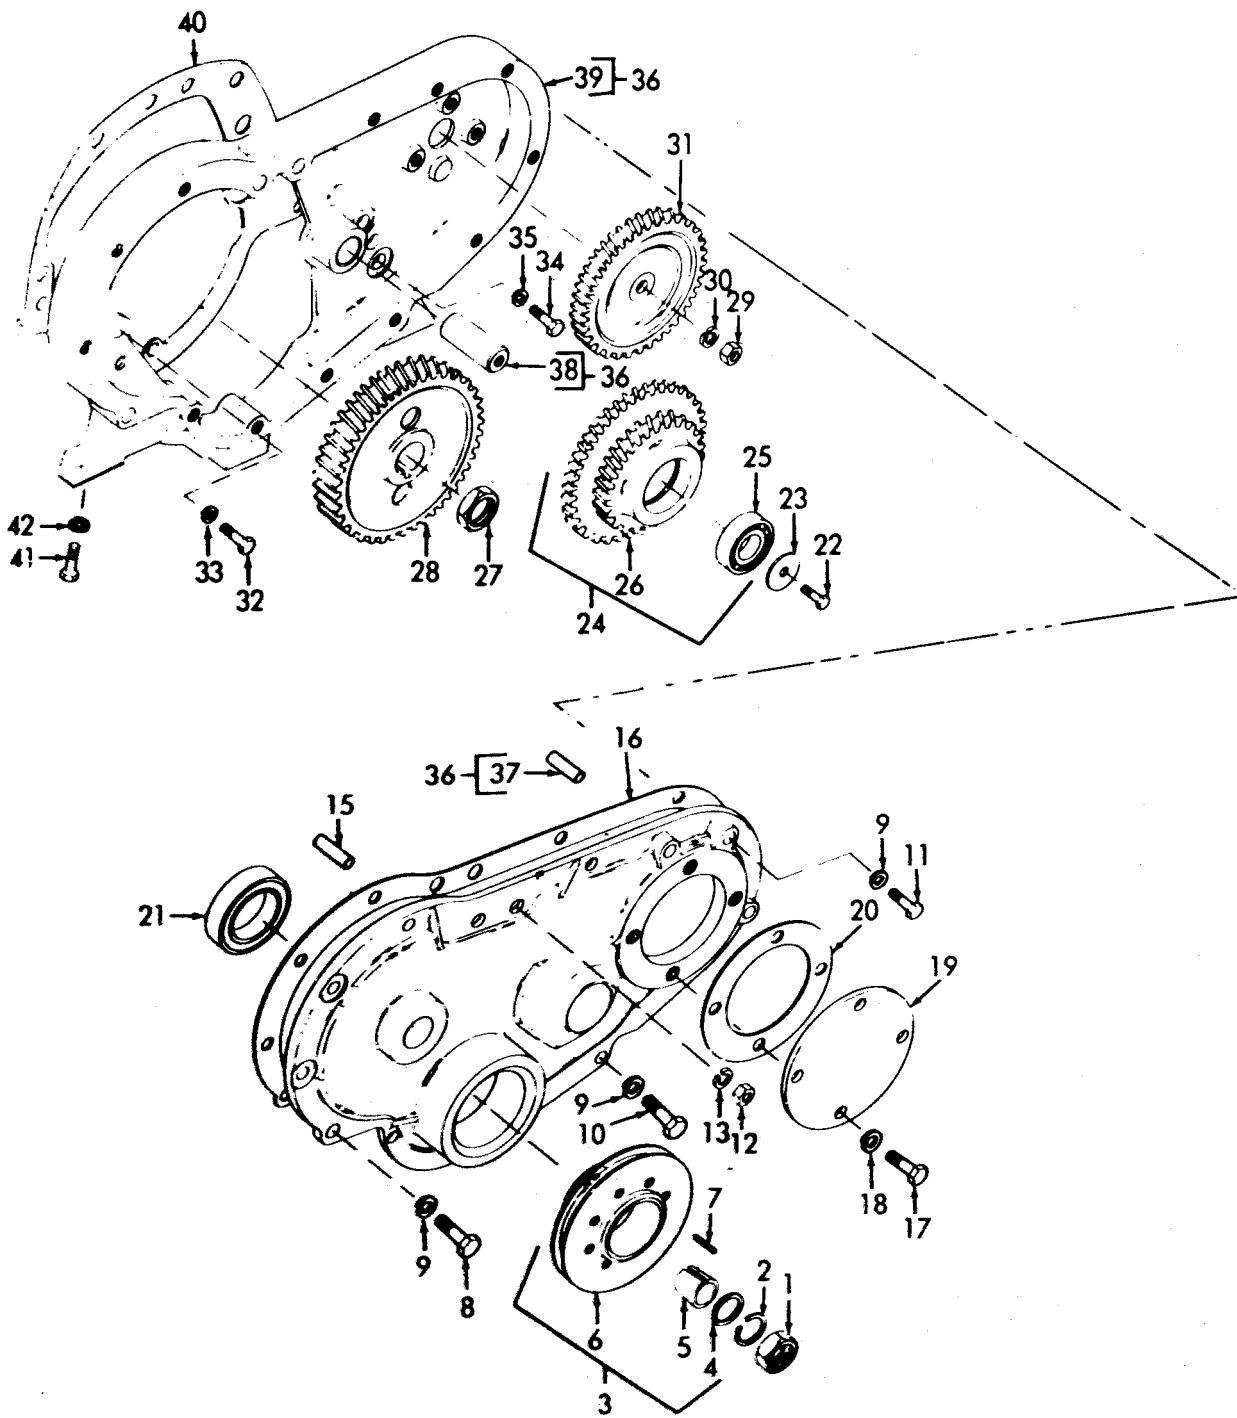

Figure 12-3. Gear Housing and Cover.
- (1) Remove the nut (1, figure 12-3), lockwasher (2), and flat washer (3) that secure the fan drive pulley (6) to the crankshaft. Use a puller to remove the pulley and pulley cone (5). Remove the key (7).
- (2) Remove the bolts (8, 10, and 11), lockwashers (9), and nuts (12 ) that secure the cover (14) to the gear housing. Remove the cover by pulling it away from the engine.
- (3) Remove the thrust plate (19) and gasket (20) from the gear cover by removing four bolts (17) and lockwashers (18). Press the oil seal (21) from the gear cover.
- (4) Remove the fuel injection pump.
- (5) If it is necessary to remove the gear housing from the crankcase, proceed as follows:
- (c) Remove the camshaft nut (27). To keep the shaft from turning, insert a brass bar between the crankshaft gear and the camshaft gear. Using a standard foot type puller inserted in holes in the gear, pull the camshaft gear (28) from the camshaft.
- (d) Remove bolts (32 and 34) and lockwashers (33 and 35). Pull the gear housing away from the cylinder block. It may be necessary to tap the housing with a soft hammer to loosen it from the dowels or from gasket (40) sticking to the block.
## LEGEND FOR FIGURE 12-3:
- (1) If the gear housing was removed, install as follows:
- (a) Cement a new gasket (40, figure 12-3) to the gear housing, allowing the cement to dry sufficiently to prevent the gasket from slipping at installation.
- (f) Install the camshaft gear (28) on the camshaft, aligning the timing mark with timing mark on the crankshaft gear. Insert a brass bar between the camshaft and crankshaft gears. Pull down and secure the gear with the camshaft nut (27). Torque to 125-130 lb-ft.
- (2) Turn the crankshaft so that the flywheel timing marks indicate the required fuel injection pump timing position for the timing cylinder.
- (3) Install a new oil seal (21) in the gear housing cover, using a small amount of sealing compound in the bore before pressing in the seal. If a new seal is precoated, sealing compound is not required. Cement a new gasket to the gear housing cover.
- (4) Clean and polish the oil seal surfaces of the crankshaft to remove any nicks or scratches which could damage the seal. Use an oil stone or very fine emery cloth and polish with crocus cloth. If the shafts have a keyway which might damage the seal during installation, cover this keyway with a thin feeler gauge to protect the seal.
- (5) Apply a thin coat of oil soap to the seal and the seal surface of the crankshaft. If seal is already oil treated, additional lubrication is not required; however, take care to keep the seal surface clean during reassembly. Carefully place the oil seal over the crankshaft to install the cover (14) on the gear housing. Secure with bolts (8, 10, and 11), nuts (12), and lockwashers (8).
- (6) Install the fan drive pulley (6), key (7), and cone (5). Pull down and secure the pulley with the crankshaft nut (1), lockwasher (2), and flat washer (3). Torque nut to 125 lb-ft.